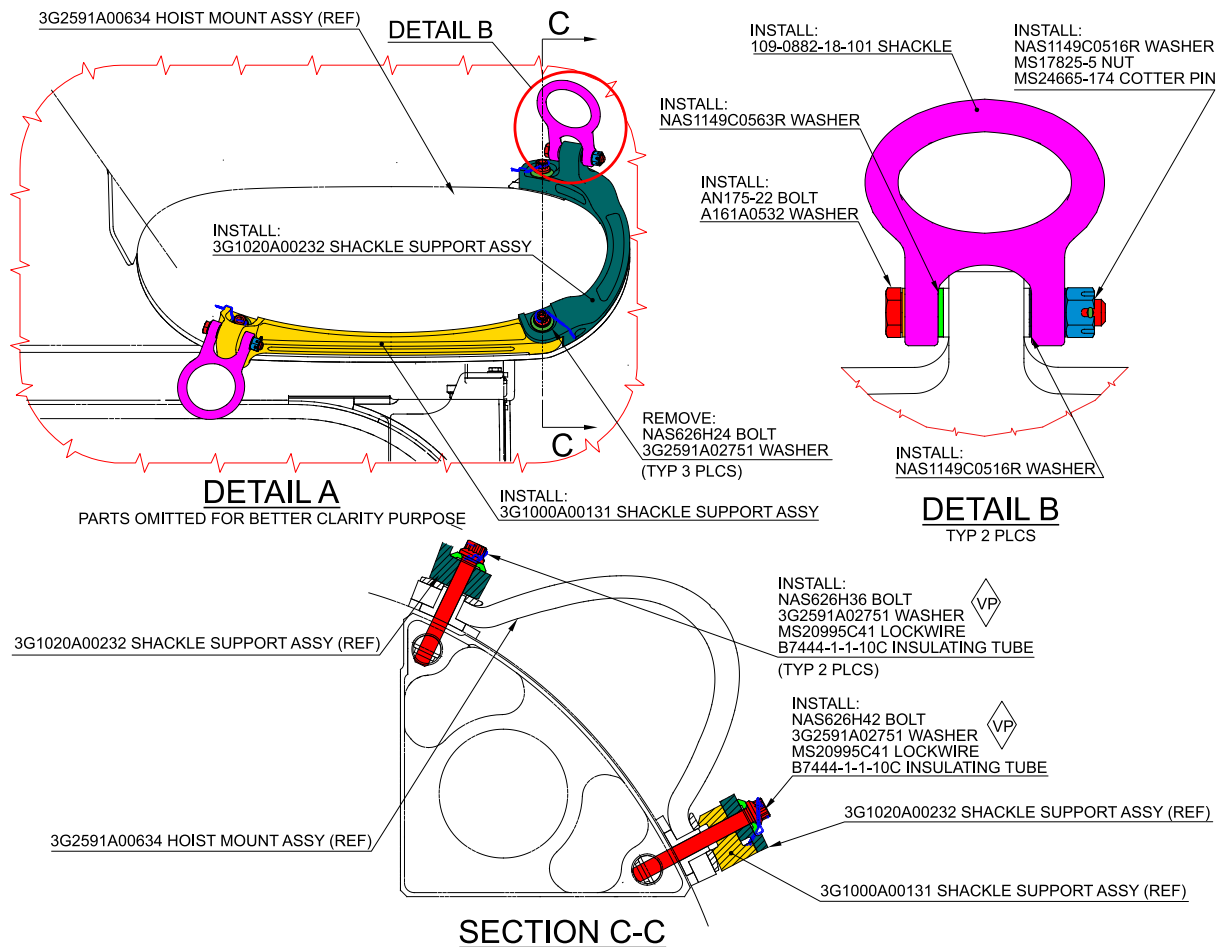

**Figure 7**
3. With reference to Figure 7, perform the retromod for hoist Goodrich P/N 3G5306P42211 as described in the following procedure:
- 3.1 With reference to Figure 7 Detail A and Detail B, remove the existing shackles and related fixing hardware from the hoist support P/N 3G2591A05351.
- 3.2 With reference to Figure 7 Detail B, install one of the two shackles P/N 109-0882-18-101 on the hoist support P/N 3G2591A05351 by means of n°1 bolt P/N AN175-22, n°1 washer P/N A161A0532, n°3 washers
- 3.4 With reference to Figure 7 Detail B, safety the nut P/N MS17825-5 by means of a cotter pin P/N MS24665-174.